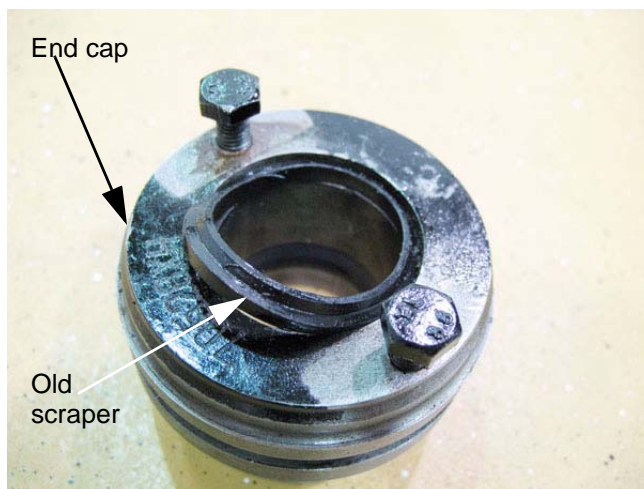

Figure 5.26
- 3.23. Carefully pry the scraper out of the groove near the outside face of the end cap. See Figure 5.26.